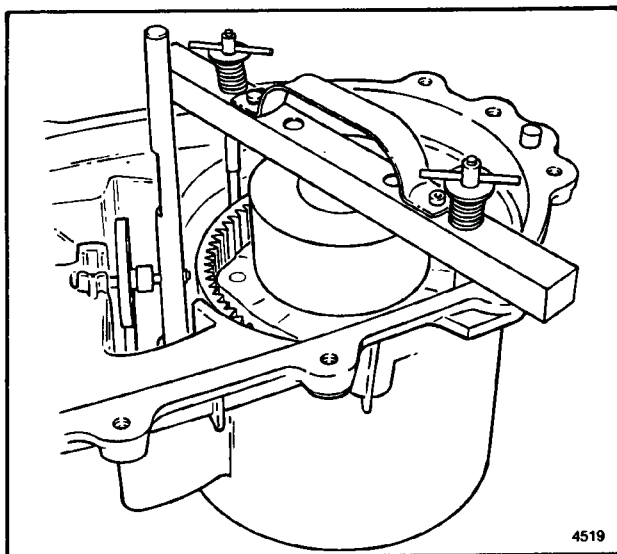

Figure 5-9. Reduction Shift, Carrier and Input Shaft Group in Transfer Case
a. Apply petrolatum to thrust washer (74) to help hold in place and center on bushing in transfer case assembly (86).
b. Bring the previously assembled (paragraphs 5-7 and 5-8) carrier and input shaft group (retained with assembly tool T-13-45-001) and reduction shift fork, rail and cam group together by engaging reduction shift fork (59) with groove in shift hub (70). Holding these two groups together, lower into transfer case assembly (86) (see figure 5-9), meeting following conditions: